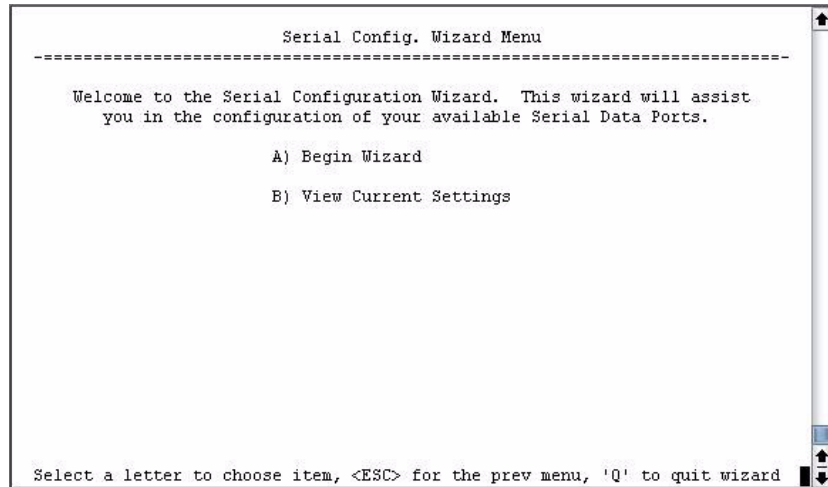

Figure 3-52. Configuration Wizard Opening Screen
1. From the Serial Configuration Wizard opening screen (Figure 3-52 on Page 88), select **A** to begin the wizard.